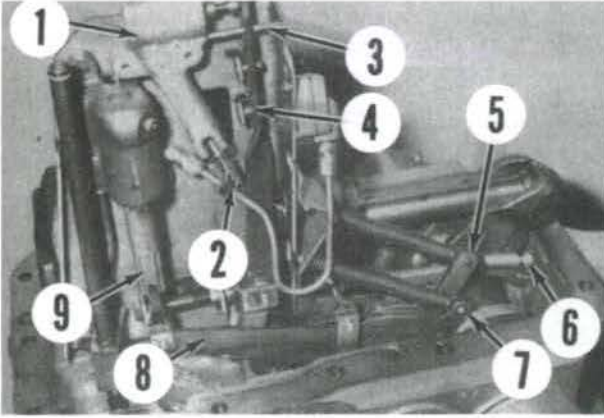

Fig. 198—View of lift cover internal control linkage. Pressure control model is shown.
**212. DRAFT CONTROL ROD.** To adjust draft control rod (6—Fig. 198), first move draft control lever to full "UP"
On pressure control models, disconnect pressure control lever (8—Fig. 198) from pressure control valve and rear pivot pin, and remove control lever. Remove pressure control adjusting tube (9) with rod, clevis and spring from pressure control valve.
215. **PRESSURE CONTROL VALVE.** On models equipped with pressure control, reinstall spring and adjusting tube (9—Fig. 198) into pressure control valve. Attach pressure control lever (8) to clevis and pivot pin. Move draft control lever fully "UP" and move inner quadrant